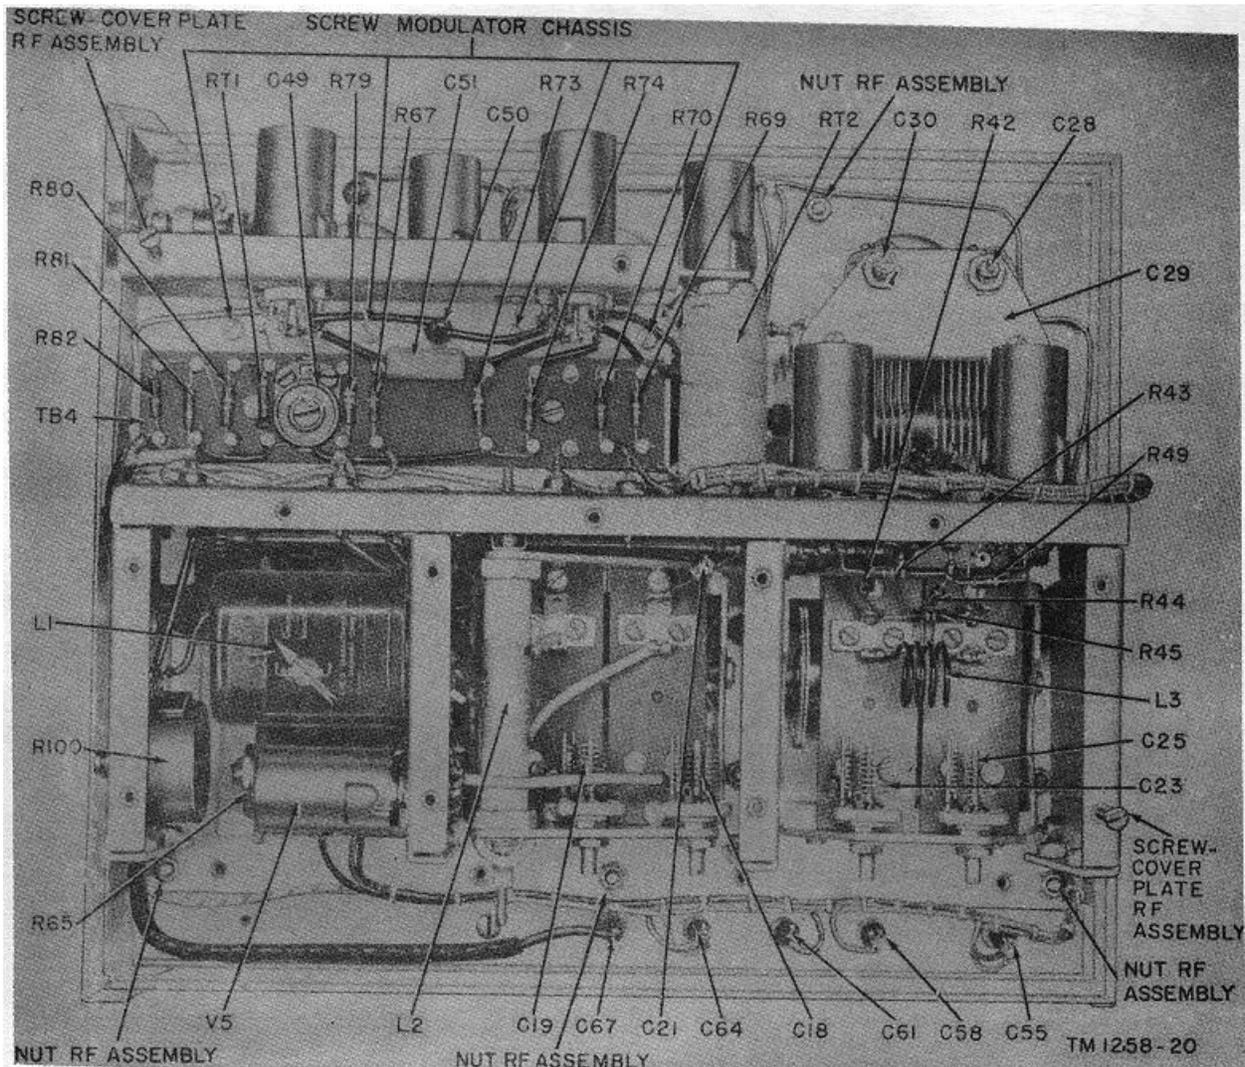
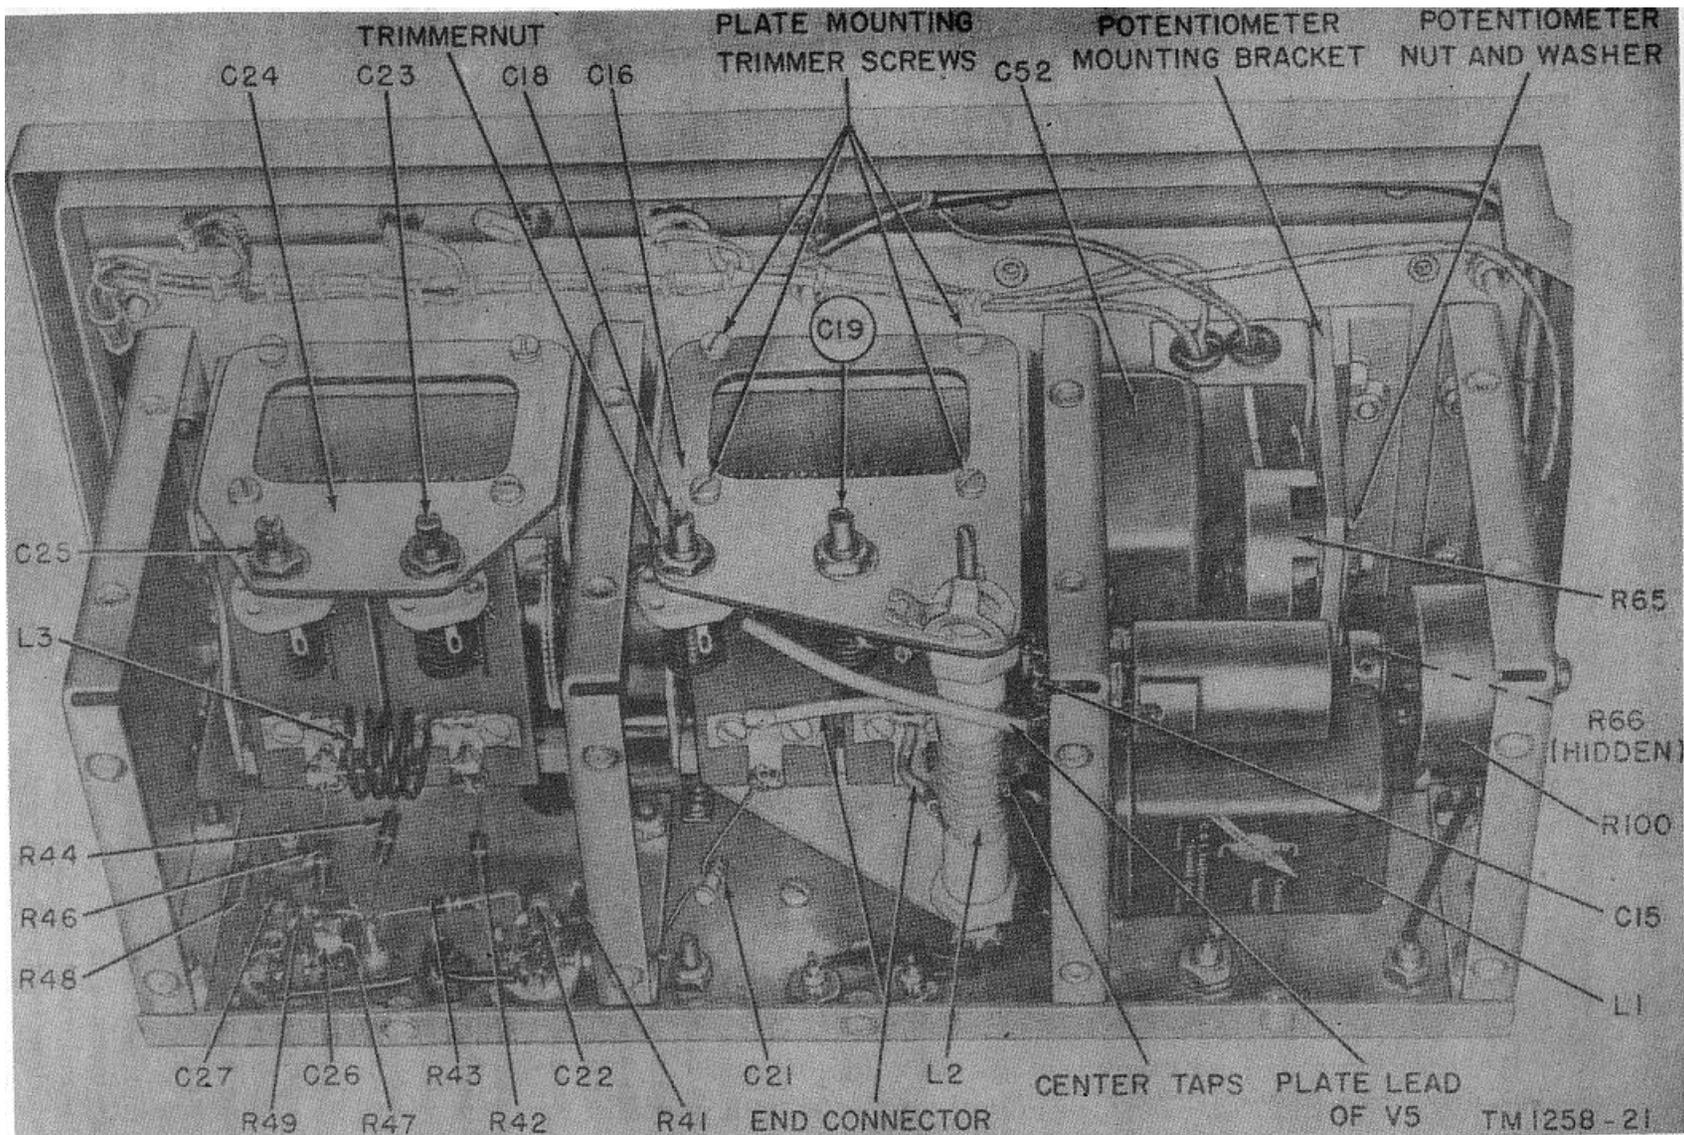
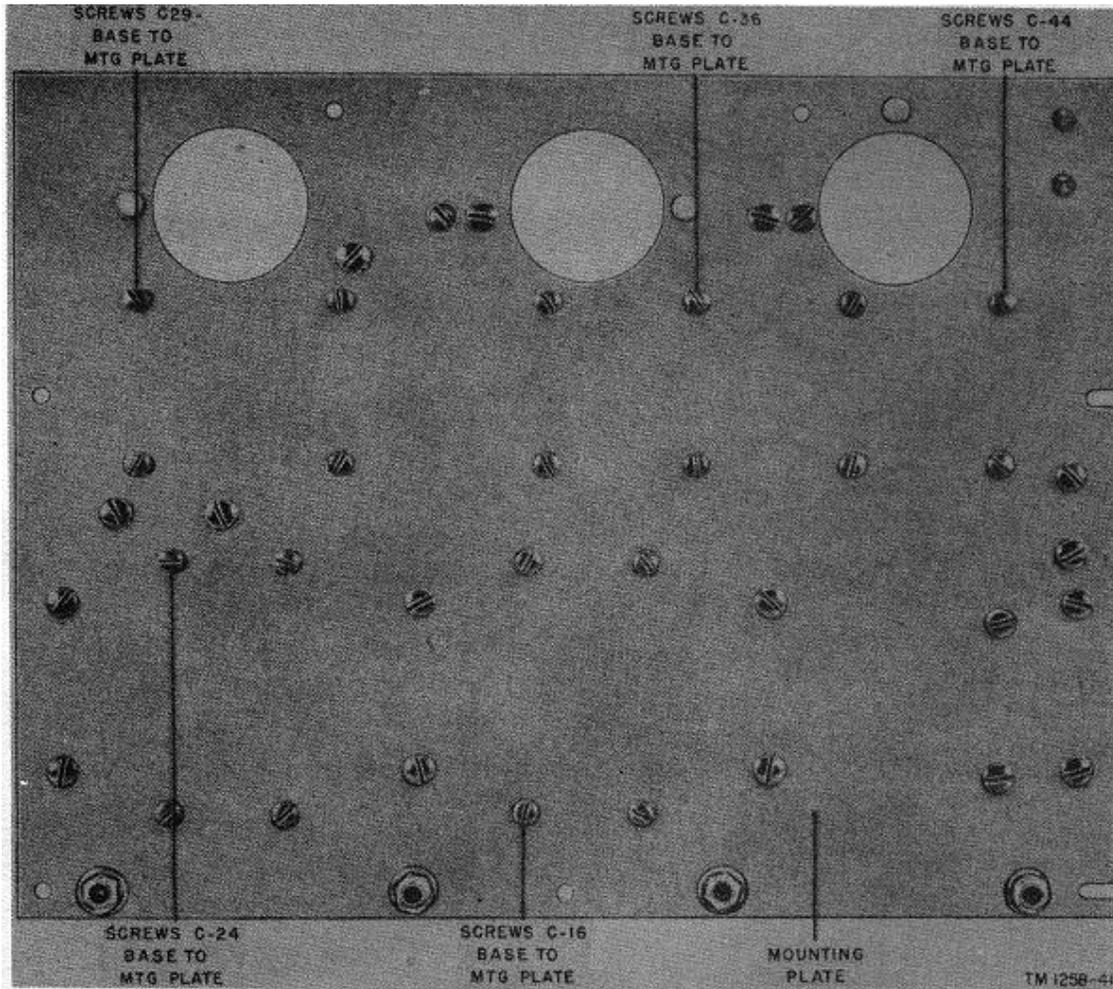
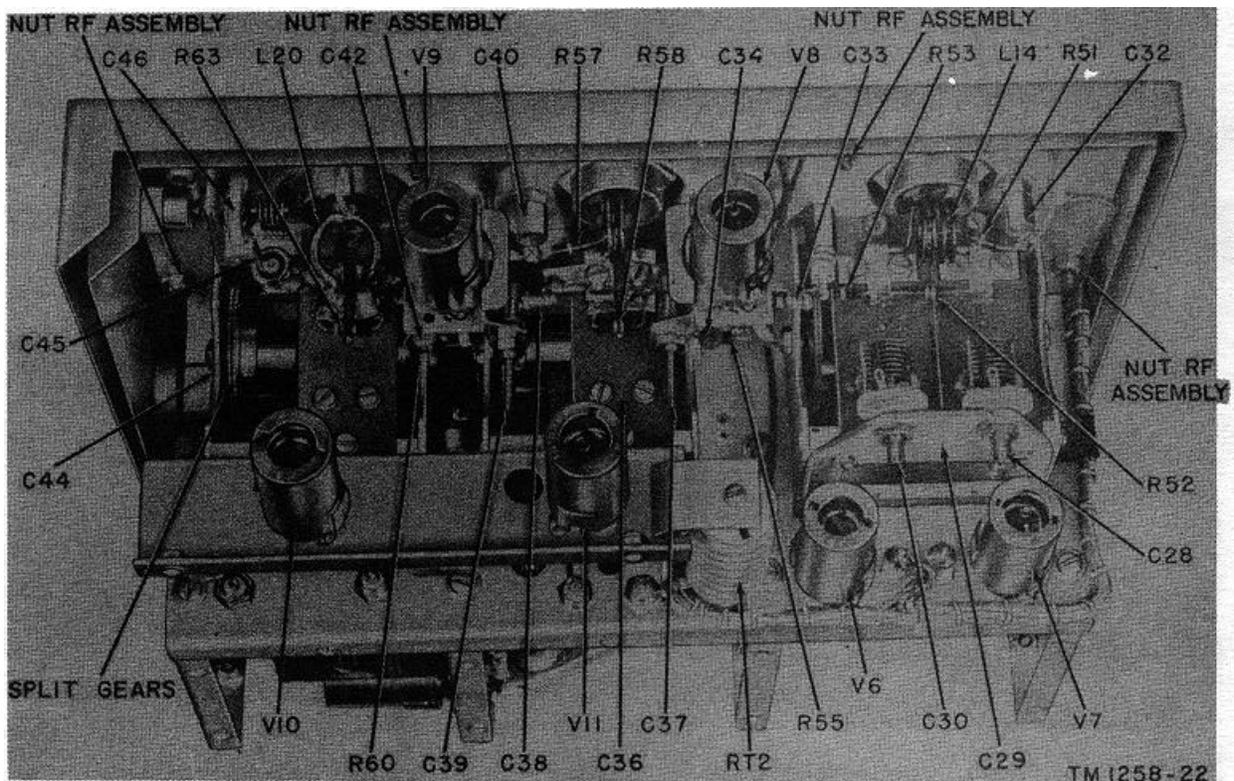

Figure 21. Rf assembly, left side view.
Figure 22. Rf assembly, top view.
Figure 23. Mounting plate.
Figure 25. Rf assembly, bottom view.
screws (fig. 21) which secure the cover plate to the rf assembly.
- (5) Loosen the four setscrews in the hub to which the FREQ. IN MEGACYCLES dial was secured. (There are two setscrews in each hole.) Remove the hub.
- (6) Loosen the two setscrews in the hub of the 200-400MC TRIMMER and remove the plastic shaft.
- (7) Unsolder the leads to C55, C58, C61, C64, and C67 (fig. 21) on the rf assembly.
- (8) Remove the seven nuts (figs. 21 and 25) which secure the oscillator subplate to the chassis and remove the rf assembly.
- (1) Position the rf assembly and replace the seven nuts which secure the oscillator subplate to the chassis.
- (2) On the rf assembly, solder the leads to C55, C58, C61, C64, and C67 (fig. 21).
- (3) Insert the plastic shaft and tighten the two setscrews in the hub of the 200-400MC TRIMMER capacitor.
- (4) Position and then secure the hub of the FREQ. IN MEGACYCLES dial by tightening the two setscrews, and two locking setscrews.
- (5) Position, then secure the FREQ. IN MEGACYCLES dial to the hub by replacing the three screws previously removed.
- (2) Unsolder the leads leading to C21, C15, the plate lead of V5, and the three center tap leads of L2 (fig. 22).
- (3) Remove the four screws that secure the base of the assembly to its mounting plate (fig. 23).
- (4) Remove the C16 capacitor assembly.
a. To remove tuning capacitor assembly C16 (fig. 22) from the rf assembly, proceed is follows:
- (1) Remove the rf assembly by following the instructions given in paragraph 61.
Capacitors C18 and C19 and coil L2 are components of the tuning capacitor assembly C16 (figs. 21 and 22).
b. To replace tuning capacitor assembly C16 (fig. 22), proceed as follows:
- (1) Position the assembly and secure it to the mounting plate by replacing the four screws previously removed.
- (2) Solder the leads leading to C21, C15, the plate lead of V5, and the three center tap leads of L2 (fig. 22).
- (3) Replace the rf assembly as described in paragraph 61.
a. To remove tuning capacitor assembly C24 (fig. 22) from the rf assembly, proceed as follows:
- (2) Unsolder the leads connecting R42, R44, and R46 (fig. 22) to the capacitor assembly.
- (4) Remove the assembly.
Coil L3 and capacitors C25 and C23 (figs. 21 and 22) and the split gears (fig. 22) are all components of the tuning capacitor assembly C24.
b. To replace tuning capacitor assembly C24 (fig. 22), proceed as follows:
- (1) Position the assembly and secure it to the mounting plate with four screws.
- (2) Solder the three leads attached to R42, R44, and R46 (fig. 22).
- (3) Replace the rf assembly as described in paragraph 61b.
- (3) Unsolder the three leads to C45, C46 (fig. 25), and C41.
- (4) Remove the seven screws (fig. 23) which hold the capacitor in place.